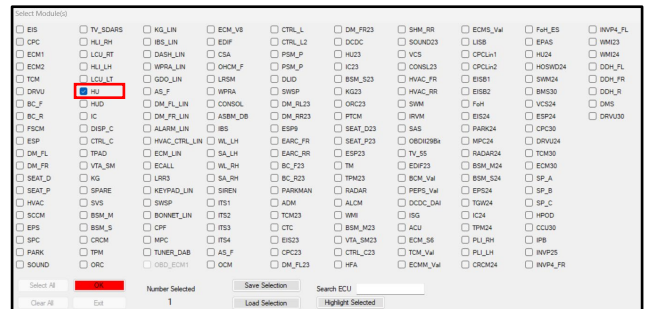

Figure 3
7. Select "HU" (refer to Figure 3).